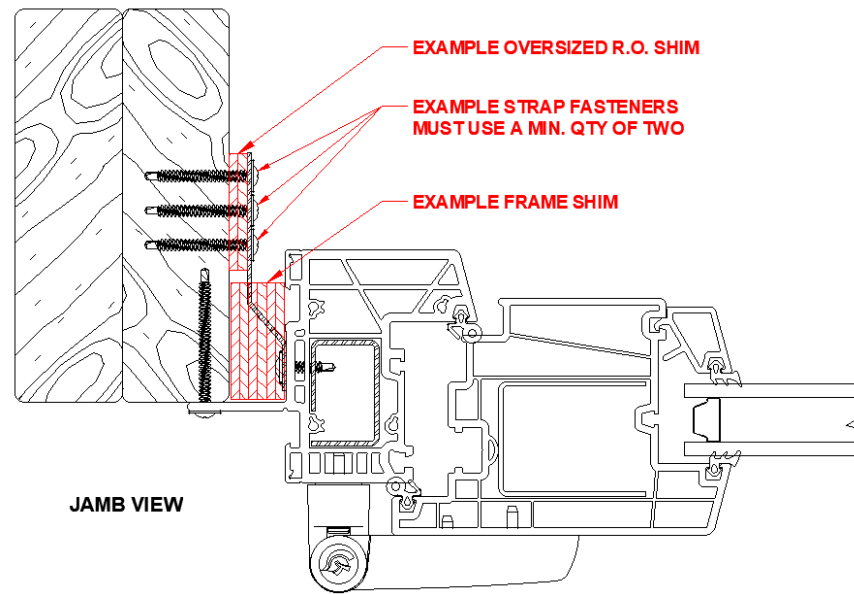

Figure 21: Example of Oversized R.O Shim Requirements
- A) Frame squaring is essential. To do this properly one must first take corner to corner dimensions (D1 & D2) then determine if both dimensions are within the allowed 1/8" of tolerance. If not, then split the difference and that is the overall adjustment that needs to be made. See Figure 21.